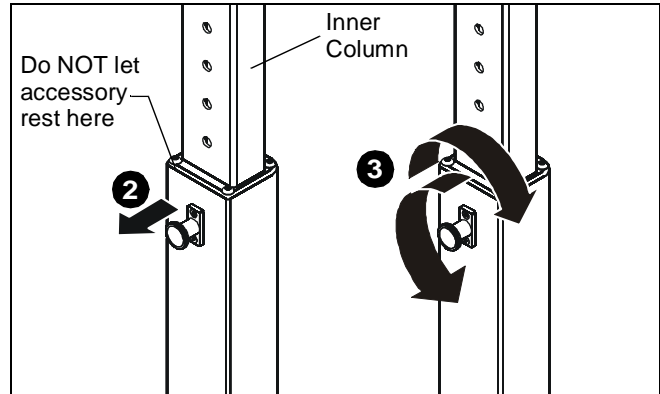

Figure 7
2. Adjust the stand to the desired height by slightly lifting the accessory, pulling out knob on the center post and turning 90° in either direction to disengage the locking mechanism. (See Figure 7)
3. Raise or lower the upright, then turn the knob 90° either direction to engage the knob and lock the stand at desired height. (See Figure 7)
IMPORTANT ! : Set the height of the stand so the accessories do NOT rest on the upper part of the outer column. (See Figure 7) Always set the height so the knob is engaged in a hole in the inner column.